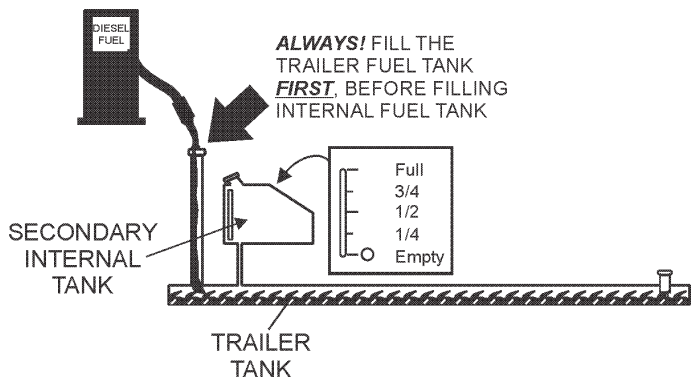

Figure 4. Fuel Tank Filling Order
2. **Trailer Fuel Tank First** – The trailer fuel tank is the primary fuel tank and holds a larger capacity of fuel. The fuel in the trailer will be filtered and sent to the engine. **ALWAYS** fill trailer fuel tank first before filling secondary internal tank (Figure 4).